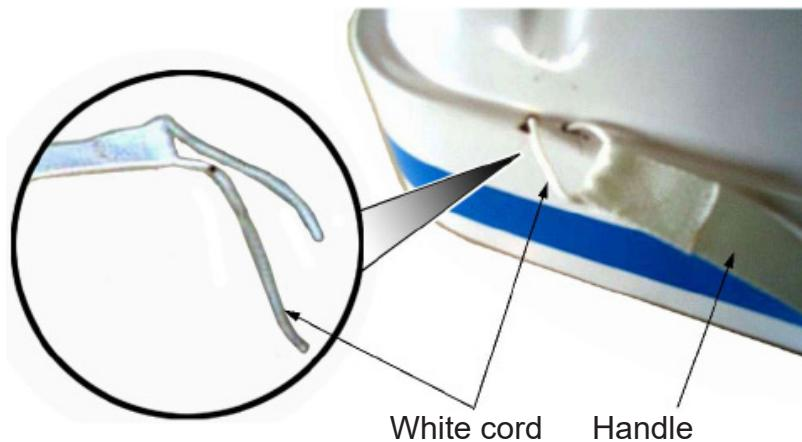

FIGURE A7-5A
- 1.1.4 Put one 200 mm length of white 525 lbf cord into the loop at each end of one handle. Refer to FIGURE A7-5A.